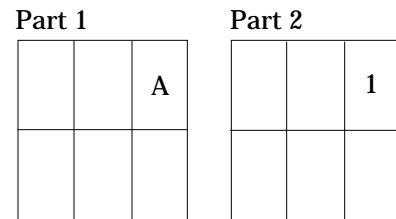

Figure 2
4. Using a china marker, label the back, top righthand corner of one of the black tiles with the letter "A" for Part 1 testing. Label the back, top righthand corner of the other black tile with the number "1" for Part 2 testing. This will assure correct location of the test sections when applying the polish. See Figure 2.